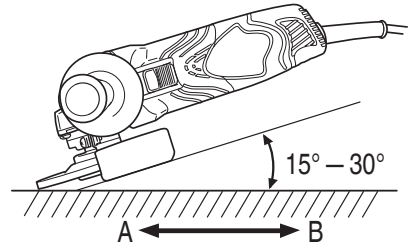

Fig. 1
Do not apply the entire surface of the depressed center wheel to the material to be ground. As shown in **Fig. 1**, the machine should be held at an angle of $15^\circ - 30^\circ$ so that the external edge of the depressed center wheel contacts the material at an optimum angle.
3. To prevent a new depressed center wheel from digging into the workpiece, initial grinding should be performed by drawing the grinder across the workpiece toward the operator (**Fig. 1 direction B**).